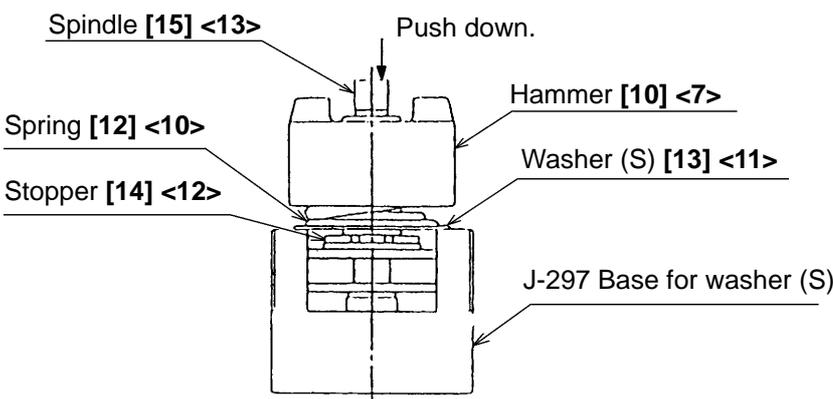

Fig. 2
Mount the hammer assembly onto the J-297 base for washer (S). With a hand press, push down the top of the Spindle [15] <13> to compress the Spring [12] <10>. In this position, remove the Stopper [14] <12> with a flat-blade screwdriver, then release the hand press. (See Fig. 2.)